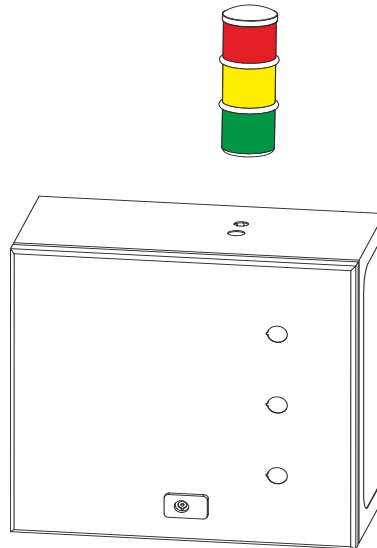

FIG. 6-2
See Figure 6-2.
1. Replace Cutter inserts as needed by removing the Insert Screw (Part 127209) using the provided T20 T-Handle wrench as shown in Figure 6-2. Place in the new insert.